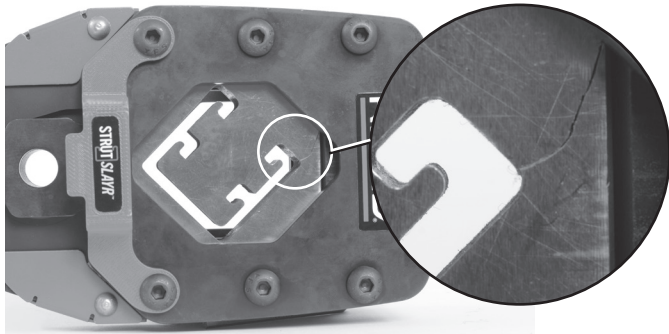

Figure 2A – Example of Die Cracking
- Chipping or cracking of the dies (See Figure 2A).